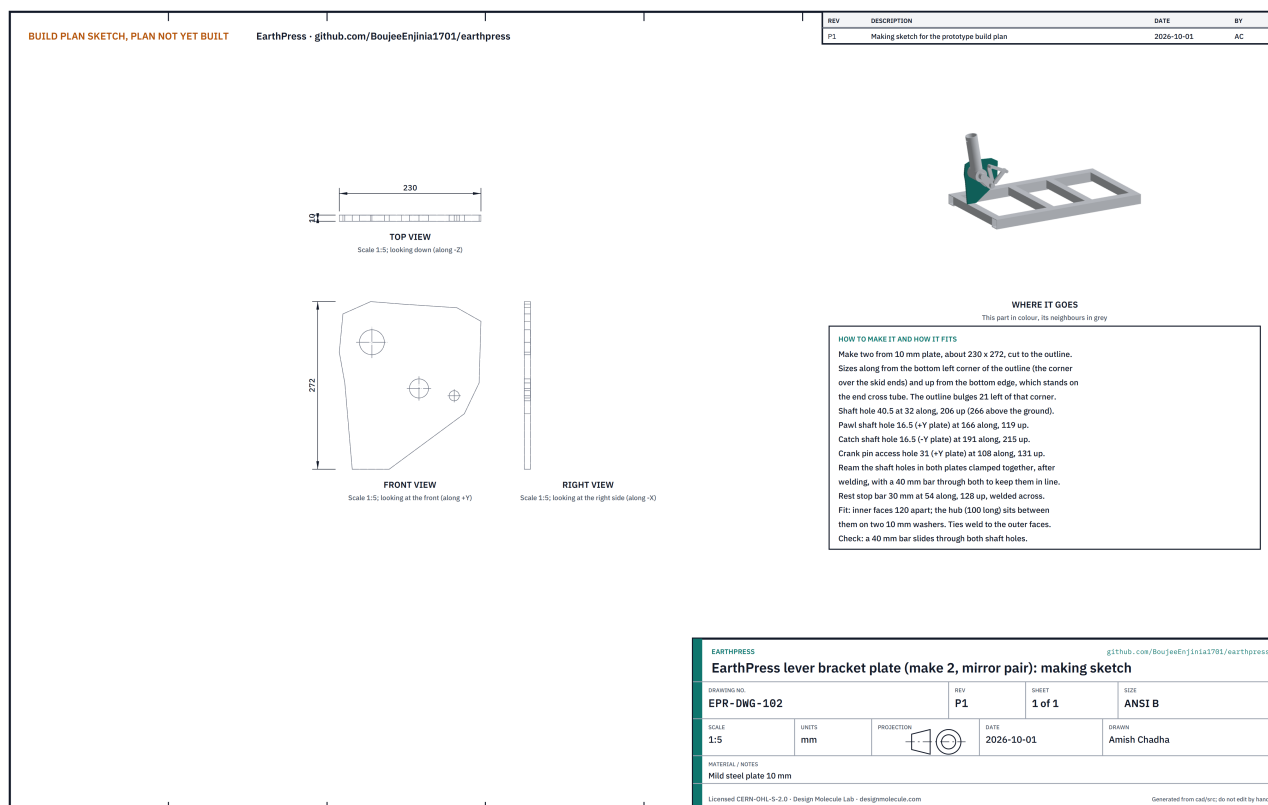

Figure 3. Lever bracket plate making sketch (EPR-DWG-102).
4. Cut the two lever bracket plates from 10 mm plate to the outline of Figure 3 (a mirror pair). Drill the shaft hole 40.5, the pawl shaft hole 16.5 and the 31 crank pin access hole in the +Y plate, and the catch shaft hole 16.5 in the -Y plate.
5. Stand the bracket plates on the left cross tube, inner faces 120 apart, with a 40 mm bar through both shaft holes to hold them in line. Weld both sides. Weld the 30 mm rest stop bar, 120 long, across between them at the position in Figure 3, and slide on its rubber sleeve after painting.